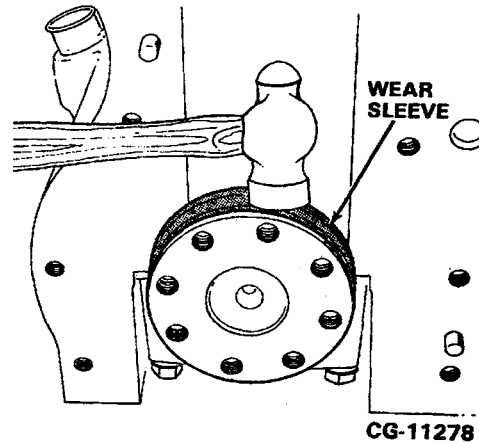

Figure 7.11. Tap to Expand Wear Sleeve
1. With the flywheel housing removed, use a hammer and tap the O.D. of the wear sleeve. Refer to Figure 7.11.